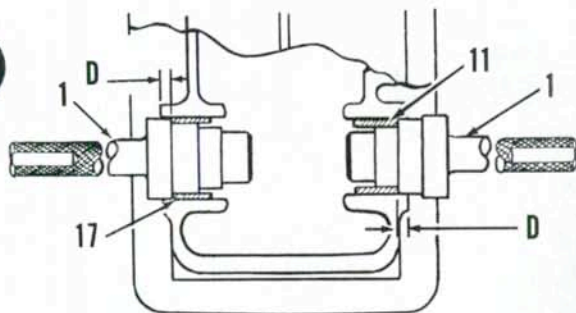

Fig. 278—Use a suitable bushing driver (1) to install rockshaft bushings (11 and 17) to specified depth (D) in lift housing. Refer to text.
Inspect all parts for excessive wear or damage and renew if necessary. When renewing bushings (11 and 17), press new bushings in until they are 8 mm (0.315 inch) below flush on 2110 models or 7 mm (0.275 inch) below flush on all other models as shown at (D—Fig. 278). Note that inside diameter of right bushing (11) is smaller than inside diameter of left bushing (17). Renew all "O" rings and seals.